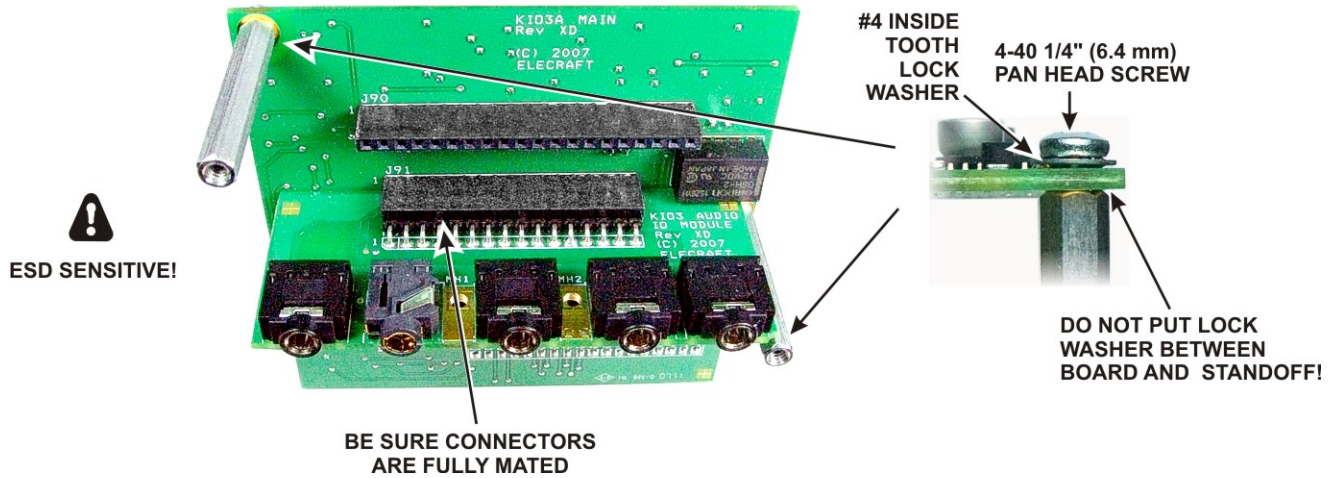

Figure 32. Preparing the KIO3 Board for Installation.
□ Mount two 1-1/4" (31.8 mm) standoffs in the two holes on the KIO3 board as shown in Figure 32 using a zinc 4-40 1/4" (6.4 mm) screw and inside tooth lock washer at each standoff. One is in the corner and the other is about half way down the opposite side of the board. **Do not put lock washers between the standoffs and the board.**
□ Plug the Audio I/O daughter board into J91 as shown in Figure 32. The second daughter board will be installed later.